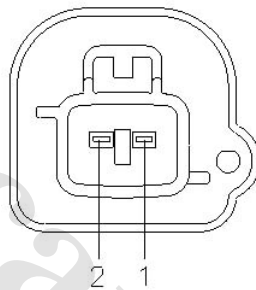

Fig. 4-52
3. Check the central lock actuator for right front door, left rear door and right rear door as shown in Fig. 4-52